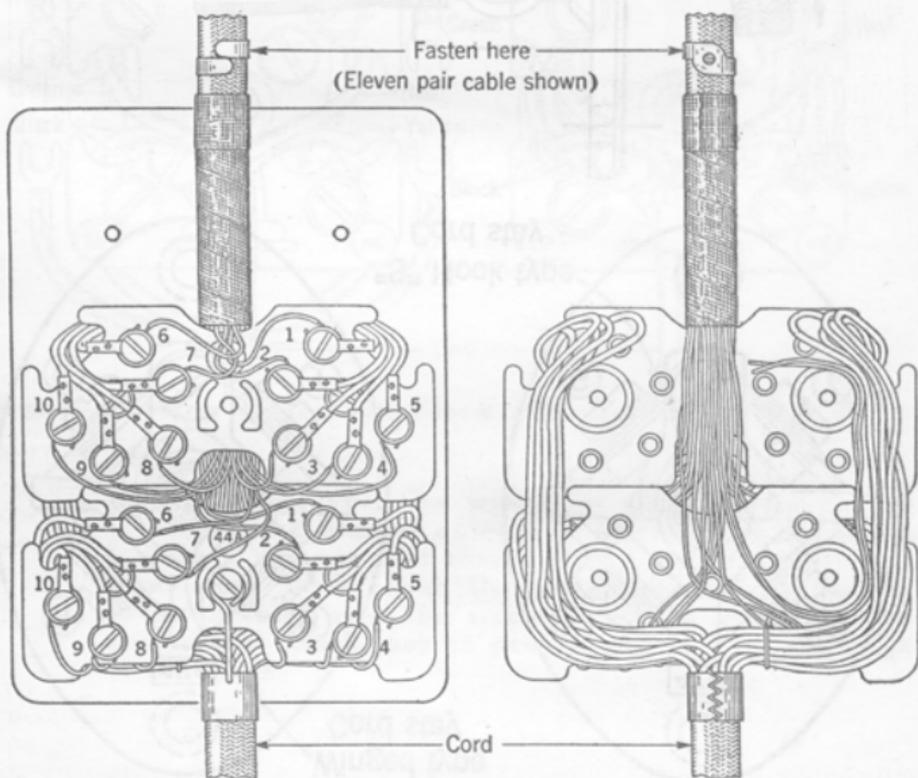

Fig. 16—Two 44A Connecting Blocks—Use 101C Cover
5.12 Where two or more 44-type connecting blocks are installed, the hook on the cord band is attached to the connecting block adjacent to the cord butt by means of the separate P-139807 screw furnished with the 101C cover. To facilitate terminating some of the larger telephone set cords on 44-type connecting blocks, cord conductors which are to be terminated on the left side of the blocks (as viewed from the front) are tied together at the factory, see Figs. 16, 17, 18, and 19 (right).